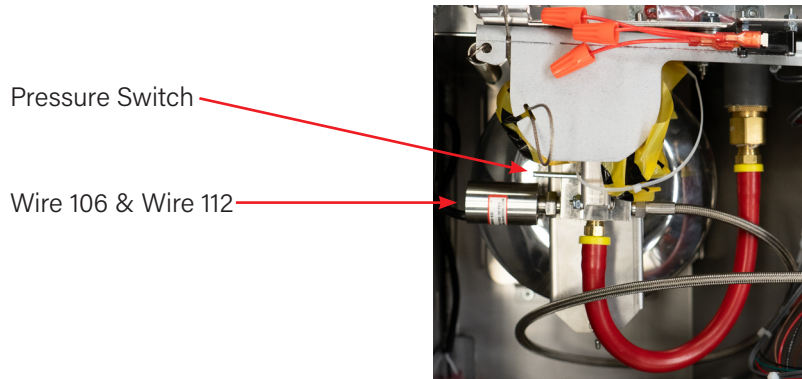

Figure 14.10
- Unplug the wires attached to the pressure switch. (see Figure 14.10 Extinguisher tank)